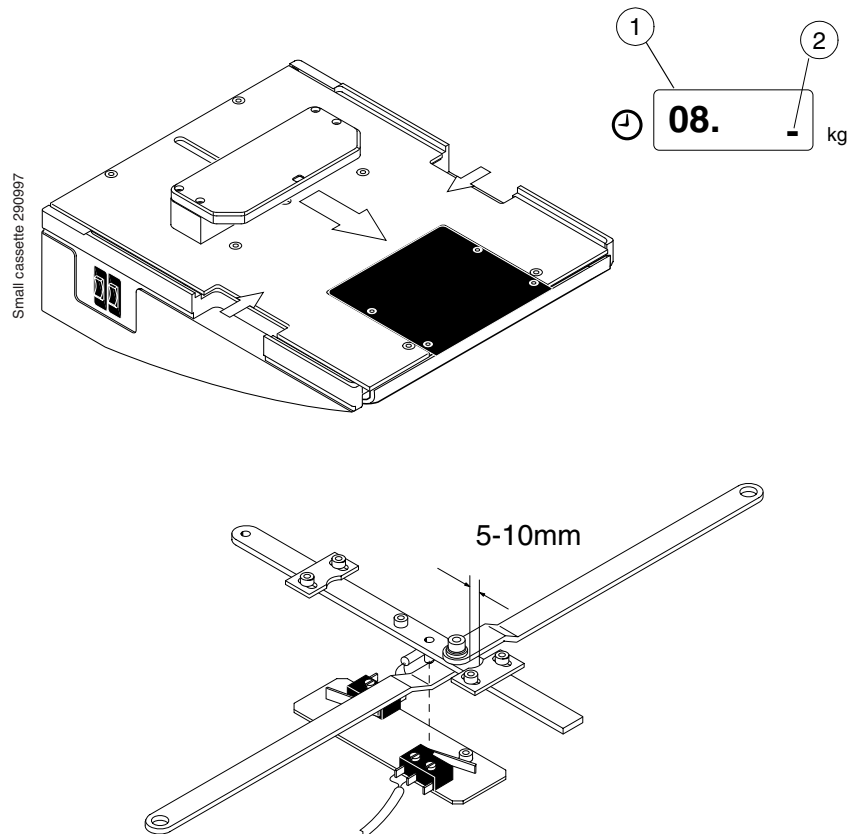

Figure F.38
- b) Enter the service mode and select the display of internal signals mode 08, see “SERVICE MODE FUNCTIONS SHORT-FORM” on page C-4. (Fig. F.38, 1).
- The right lower signal (Fig. F.38, 2) on the display should light when the labeling head is 5 - 10 mm from the extreme position.